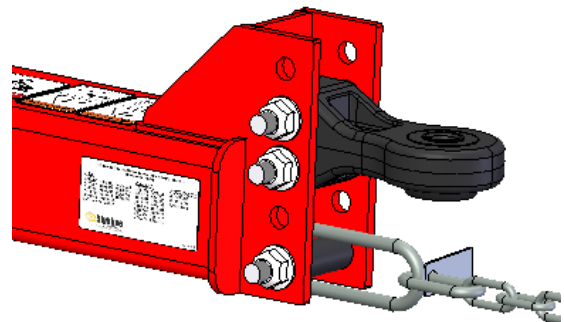

Figure 4.2: Adjust the position of the hitch tongue
- ii. For a tractor drawbar that is 17 - 18 in (432 - 457 mm) from the ground, set the tongue to be in the 2nd and 3rd holes from the top, as shown in *Figure 4.2*.